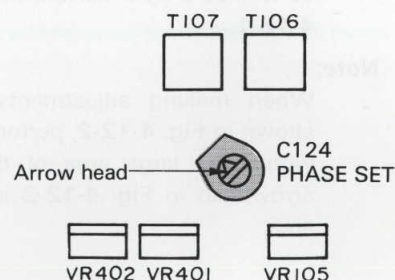

Fig. 4-12-2 Adjustment point of C124 PHASE SET TRIMMER
1. When making adjustment with C124, as shown in Fig. 4-12-2, perform the adjustment within the large area of the trimmer. The arrowhead in Fig. 4-12-2 is pointing to the area.
- (5) Raise the vertical sensitivity of the oscilloscope by 10 mV/div., and alternately turn C124 PHASE SET TRIMMER and T102 PHASE SET TRANSF. to obtain a blue level in an uppermost (along the base line) position as well as a clear waveform.
When making adjustments with **C124** as shown in **Fig. 4-12-2**, perform the adjustment within the large area of the trimmer. The arrowhead in **Fig. 4-12-2** is pointing to this area.